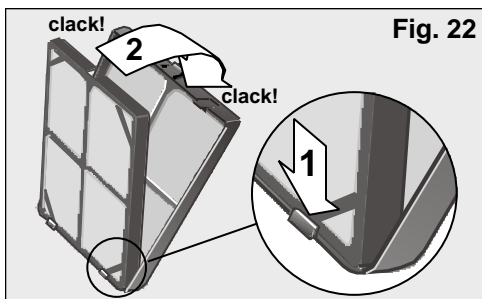

Fig. 22
- Insert the double active filter + positioner in the basic filter as shown on Fig. 22, remembering that it must be housed on the lower studs first.